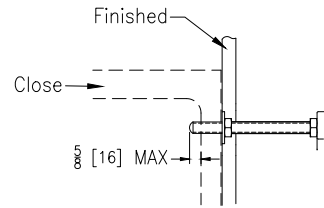

Figure 11a.
11. Prep for finished wall. Fasten the (4) threaded rods from the finish bag into the faceplate, using the (4) jam nuts to tighten the studs down. Each rod extends 5/8 [16] past the closet bowl flange (see **Figure 11a**).